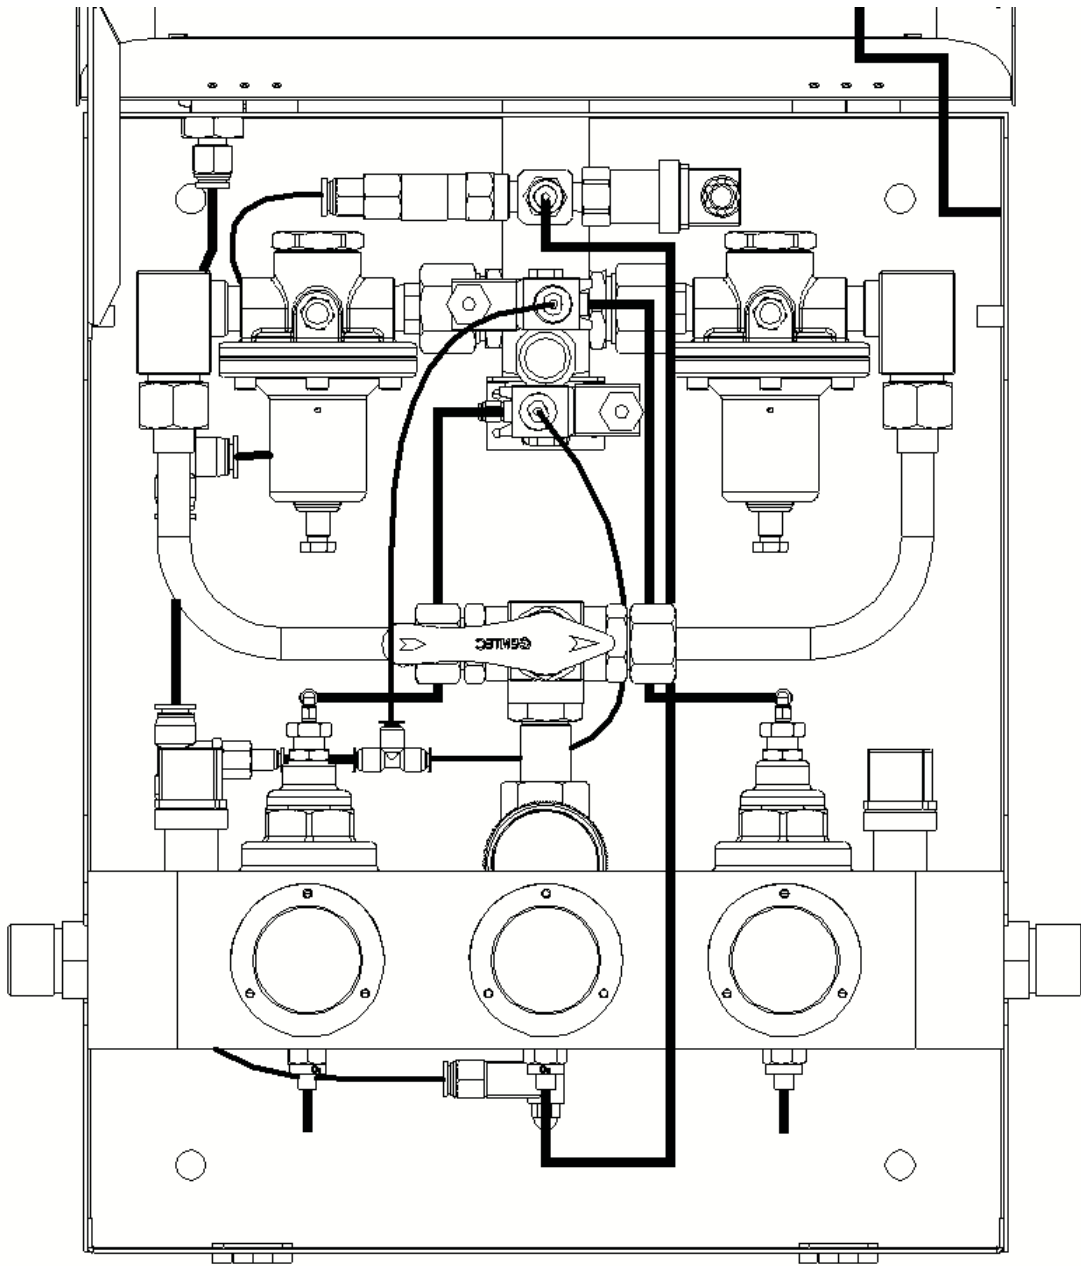

Figure 21
4. Turn Tee Ball Valve handle indicator to point towards the right as shown in Figure 21
23. Turn Tee Ball valve indicator to point towards the right as shown in Figure 21